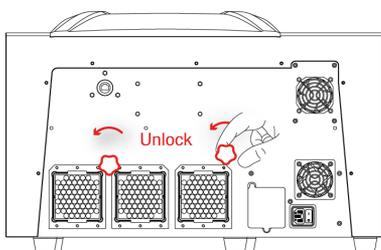

Figure 39: Unlocking the Stacker Locks
1. Switch off power to the Microarray Scanner. Unscrew the two stacker locks at the rear of the instrument to release the front cover (Figure 39).